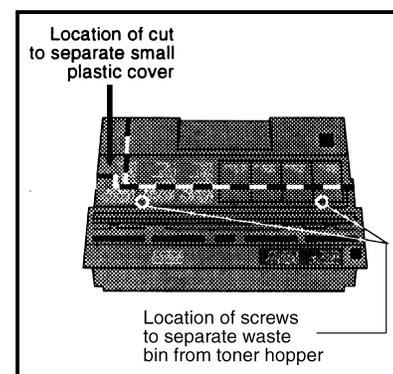

Figure 1
1. Cut the paper instruction label on the cartridge shell. Remove the two (2) screws securing the waste bin to the toner hopper (Fig. 1).